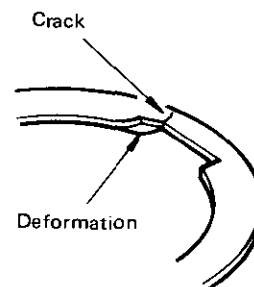

Fig. 7-1
- a) Those whose side has been torn off as shown in Fig. 7-1 shall be repaired by striking with a hammer. However, striking shall not be performed so strongly as making the thickness so thin or as damaging its original shape.